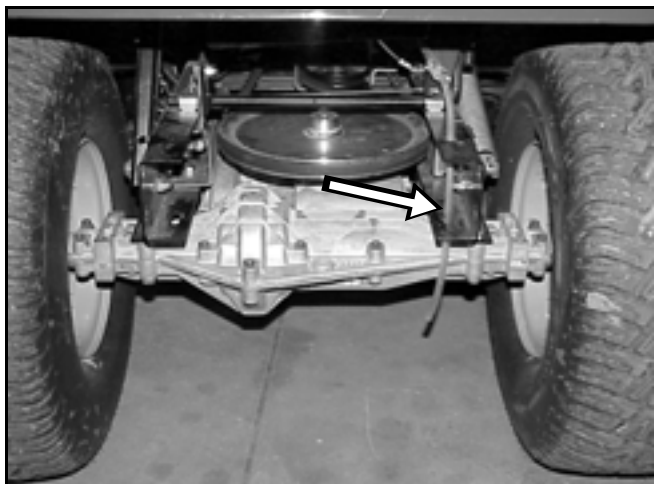

Figure 24
9. Install the right and left rear tires. Install the battery and battery box. Note: Make sure the battery drain tube is installed through the rear hole of the frame (Figure 24; rear hitch panel removed for clarity).